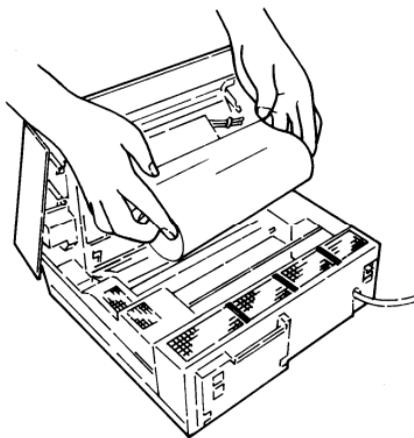

Fig. 2-6
3. Set the thermal paper in the machine with the leading edge feeding from the rear of the machine, as shown in Fig. 2-6.